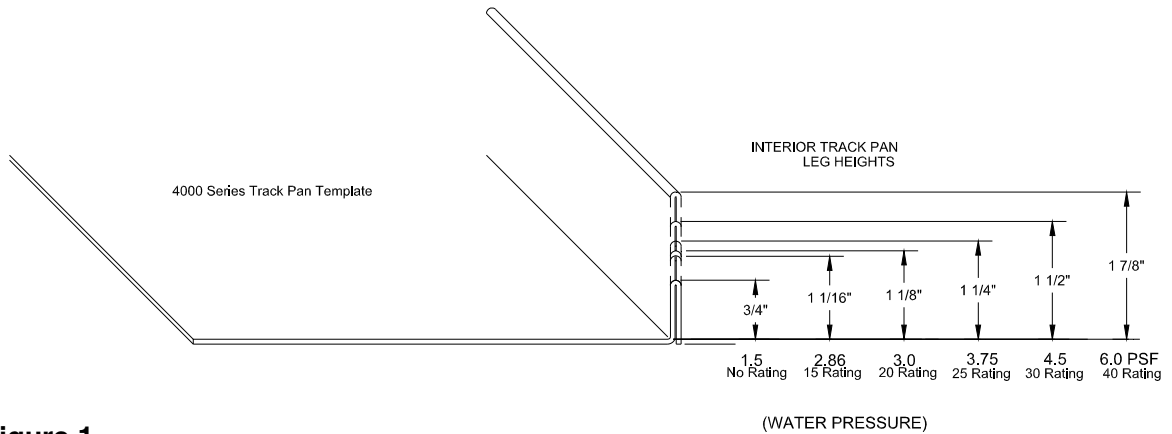

Figure 1
2. Check the sheet metal sill pan (previously installed by a Licensed Contractor) to insure that it has been designed and installed absolutely level and in accordance with standard sheet metal practices and that it is fully integrated with the building's waterproofing system. Confirm also that the turned up leg at the pan has been provided at the proper height required for the level of water infiltration protection required for your particular installation requirements. See below for turn up heights and the corresponding water resistance. (See Fig. 1)